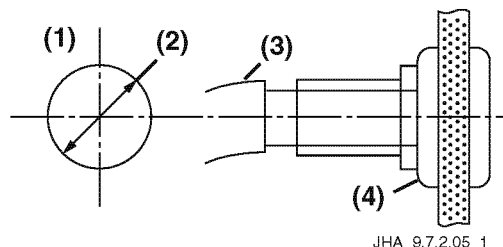

Figure 7-19
1. Drill a 21 mm (0.827 in.) hole (Figure 7-19, (1)) or less for attaching the nozzle (Figure 7-19, (4)). The hose (Figure 7-19, (3)) attached at the nozzle should be 1.8 m (5.9 ft.) in length or less and should reach without any strain.